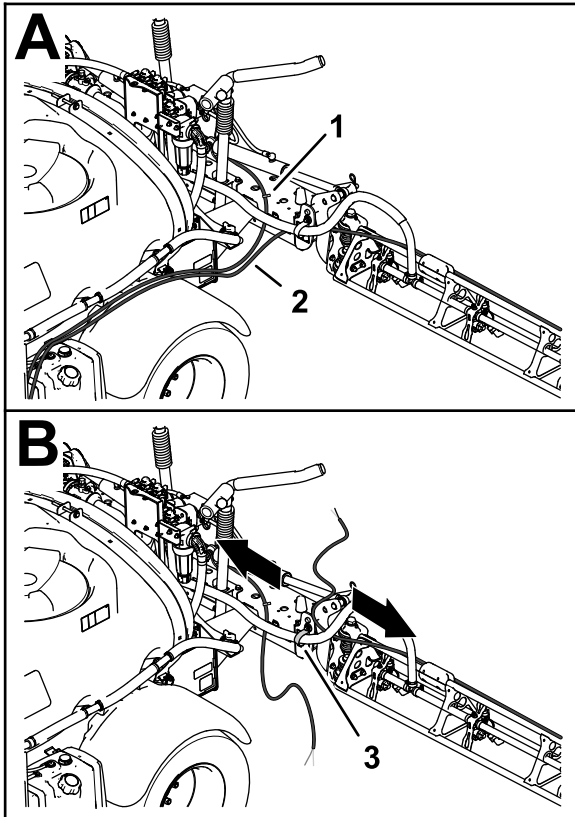

Figure 25
2. Move the tubes for the foam nozzles at the left- and right-spray section rearward and through the R-clamp near the pivot point for the spray section (Figure 25).